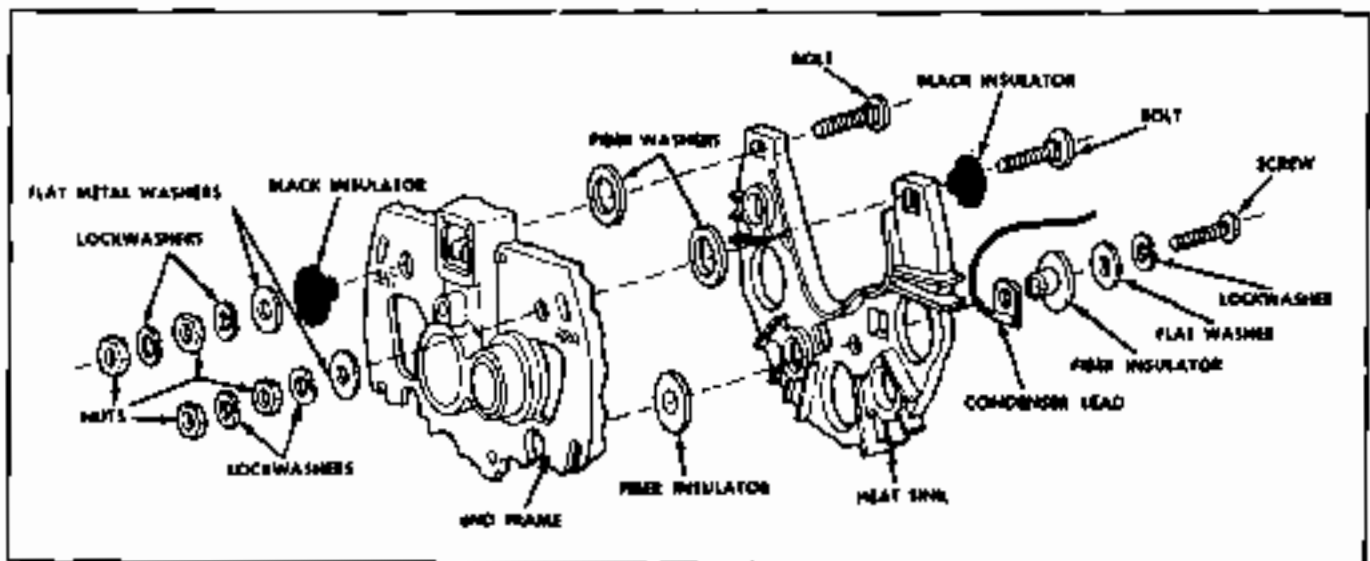

Fig. 6E-25 Heat Sink (Standard Generator) - Exploded View
4. Place slip ring end frame in vise so that new diode is in position and remover J 9717-1 supports casting (Fig. 6E-24).